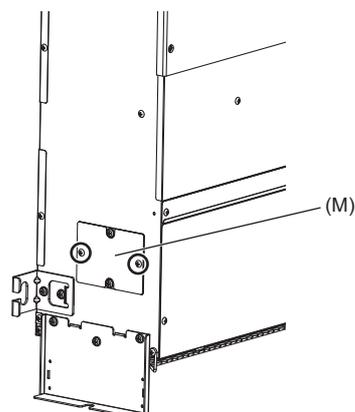

Fig. 14
- (1) Remove the two fixing screws on the bearing cover (M) to remove it. (Fig. 14)